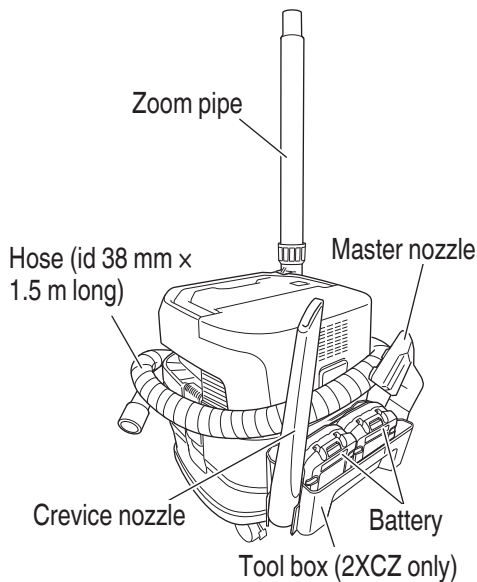

Fig. 28
(5) When the appliance is stored (see **Fig. 28**)